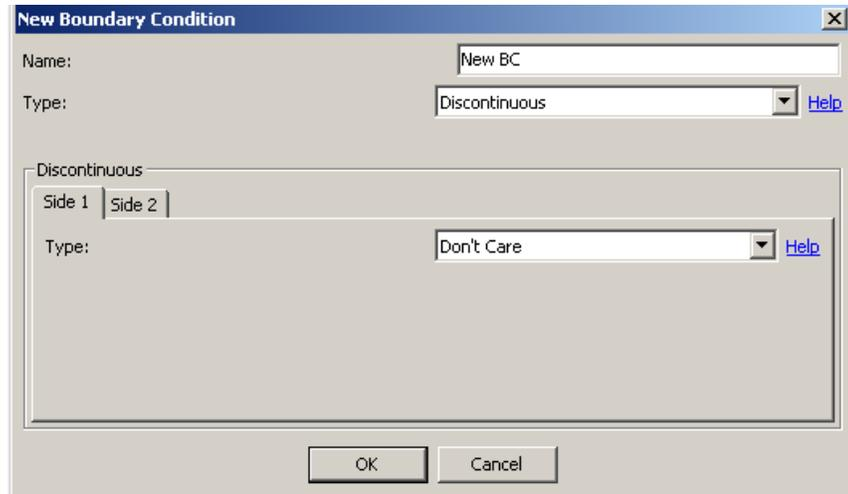

Figure 6.35 Discontinuous BC (Don't Care)
to be on the positive side (+) of the normal and *Side 2* on the negative side (-). That is, always the element normal points from *Side 2* to *Side 1*. The possible side boundary conditions allowed in *Coustyx* are listed below. (Figure 6.35)
**6.6.10.1. Don't care** This Boundary Condition is applied on the side of the boundary which doesn't come in contact with the fluid medium or on the side the user is not interested in. Again, consider the example of a vibrating surface which encloses a volume and the primary interest is in the exterior sound field. The boundary condition on the interior side of the mesh doesn't affect the exterior solution. In this case the user can apply *Don't care* BC on the interior side of the mesh and *Coustyx* will automatically apply a suitable boundary condition on the interior. (Figure 6.35)